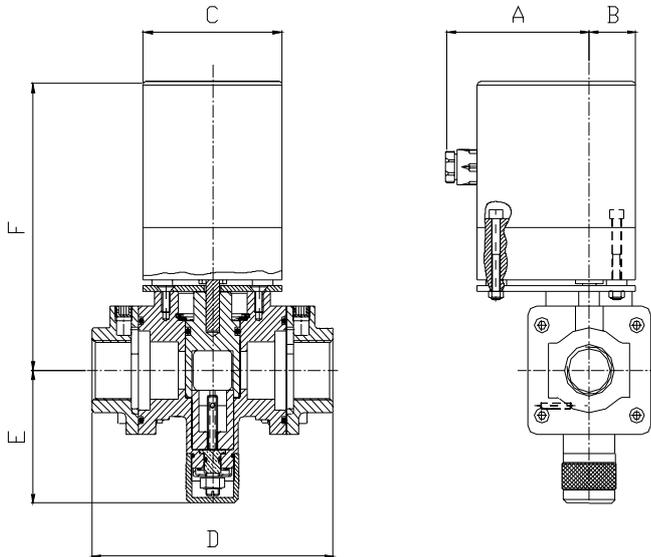

Fig. 1. Installation drawing VT4000
See Fig. 1. Installation drawing VT4000 on page 2.
1. Remove the metal cap screw part. a. Fig.1., placed under the body of the valve.
2. Loosen the hexagonal nut part. b Fig.1. with a wrench.